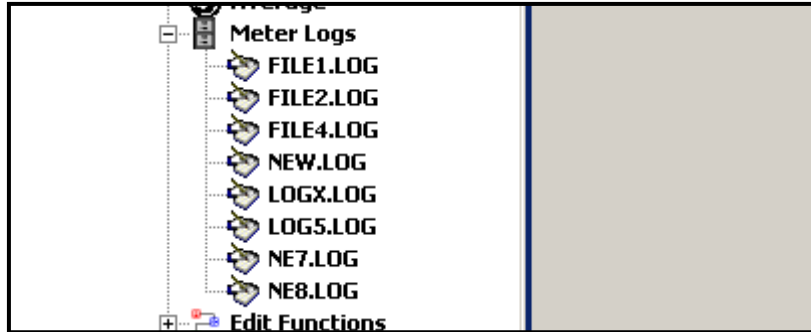

Figure 19: Expanded Meter Logs Option
1. From the *New Meter Browser* in PanaView, expand the network tree and click on the *Meter Logs* option. If you have created one or more logs, the tree will appear similar to Figure 19.